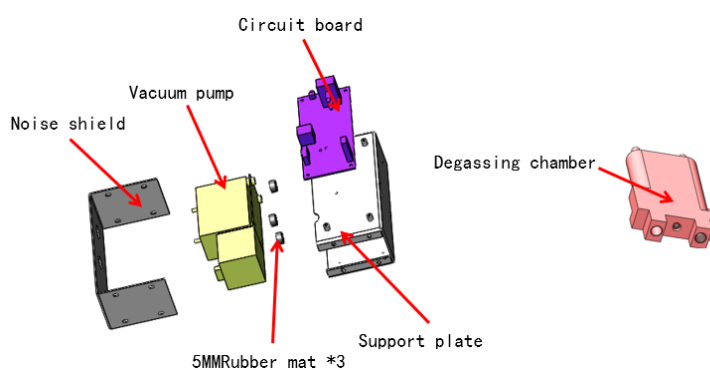

Figure 5-9 Components of a deaerator
- 3) Secure the deaerator circuit board to the deaerator support plate using M3*8 stainless steel cross-recessed pan head screws and steel paper pads, as shown in Figure 5-9.
- 5) See Figure 5-9 for securing the front panel.
- 1) Assemble the degaser according to Figure 5-9 and fix it on the bottom plate of the pump;